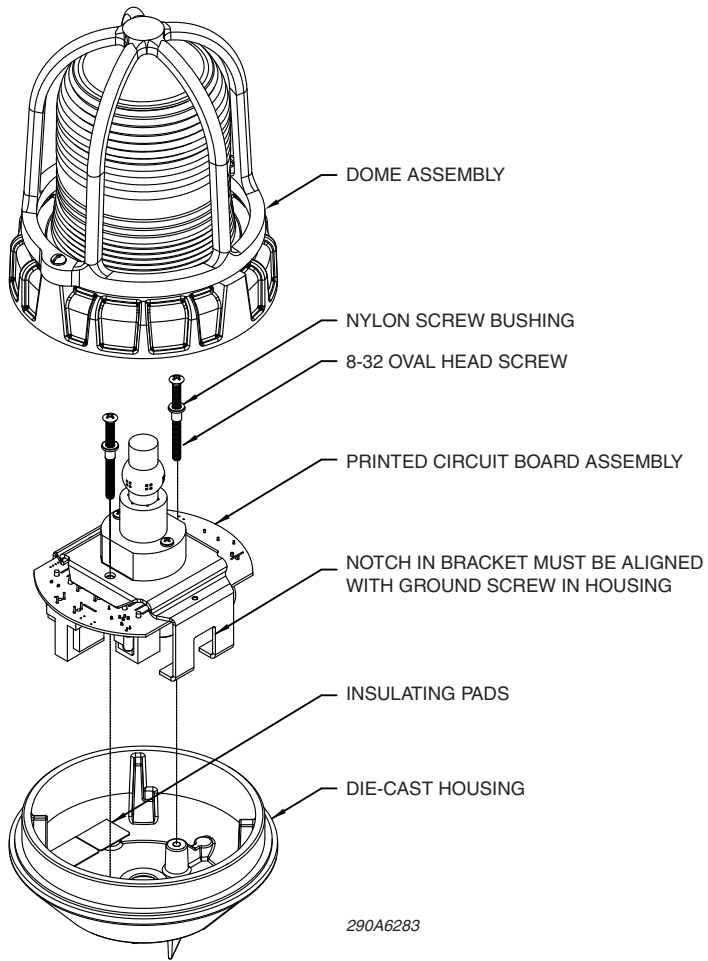

Figure 1
2. Remove the threaded dome assembly by twisting it counter-clockwise. See Figure 1 on page 8.